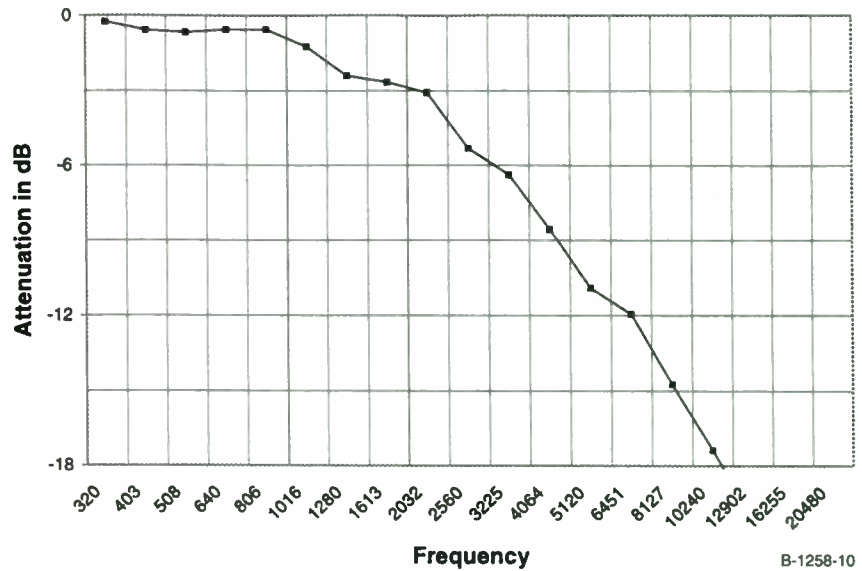

FIGURE 10: On-axis attenuation of foam on Audiom 7k.
- Find foam 3"-4" thick to filter the side midranges with the same transfer response as Fig. 10. To find the transfer function of the foam, place the driver in a large baffle, measure its response without the foam, then repeat the measurement with the foam. Most measurement packages will find the transfer function between two curves. Mathematically, you'd subtract the curve without the foam from the curve with it if the curves are in dB SPL. If the curves are expressed as pressures